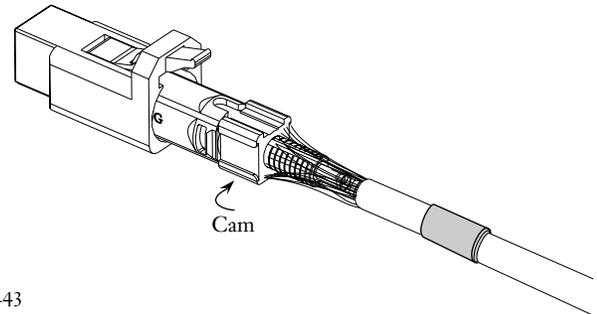

Figure 4-43
**4.8-10** Hold the cable and slide the crimp ring back along the cable jacket to free the aramid yarn. Flare the yarn around the buffered fiber (Figure 4-43).